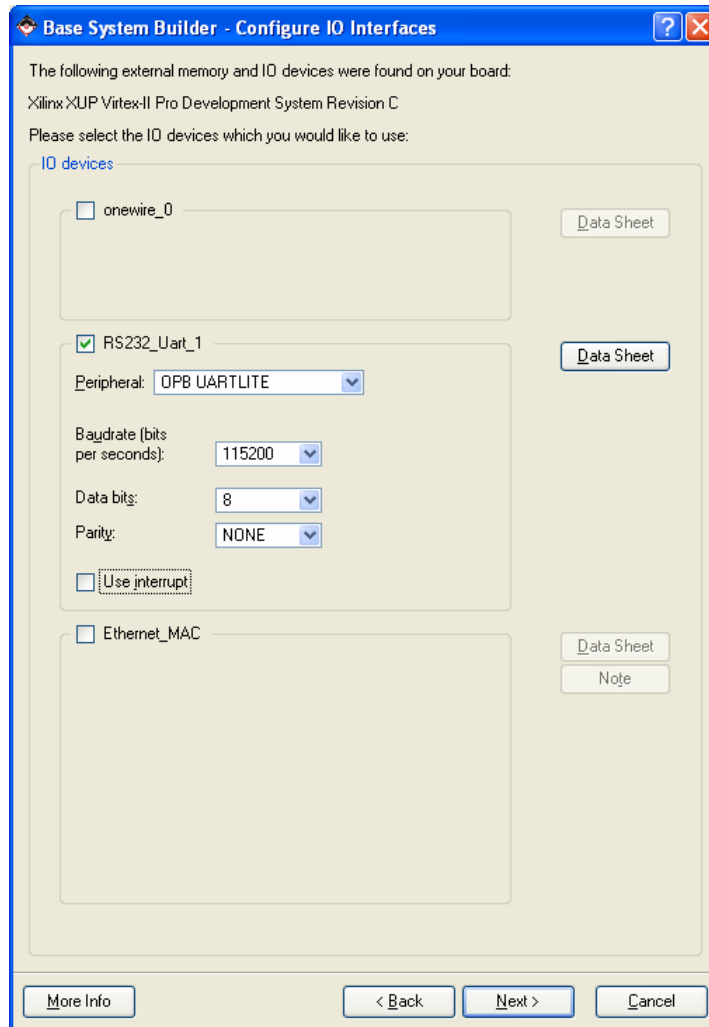

Figure 7: Configure IO Interfaces: RS232
- Next, BSB gives you the option of configuring IO interfaces. On the first page, select RS232. Set the baud rate to be '115200' (Figure 7). On the next page select the 4 bit LEDs, and 4 bit DIP switches. Unselect all other IO devices.